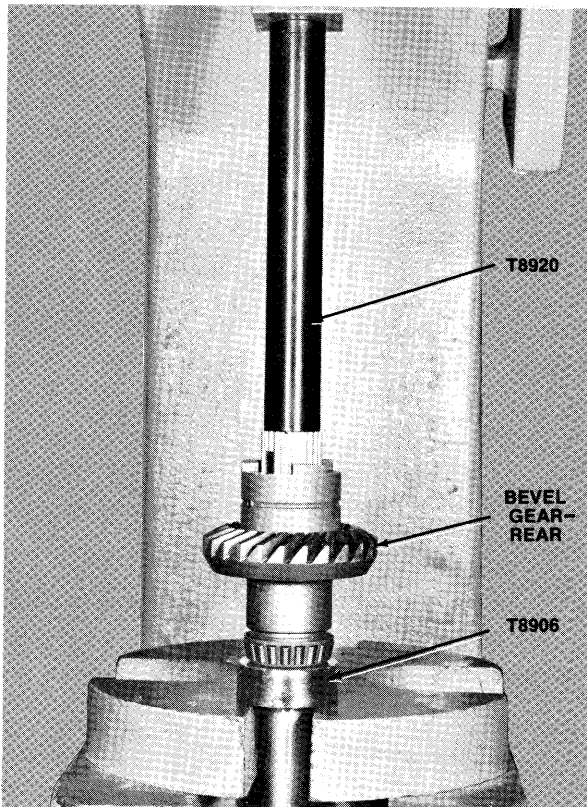

Figure 24—Installing Propeller Shaft Bearing
- D. Slide roller bearing on propeller shaft with large end of taper towards bevel gear—rear. Press bearing on propeller shaft using bearing installer (Special Tool T8906) and driveshaft installer (Special Tool T8920) as shown in figure 24.